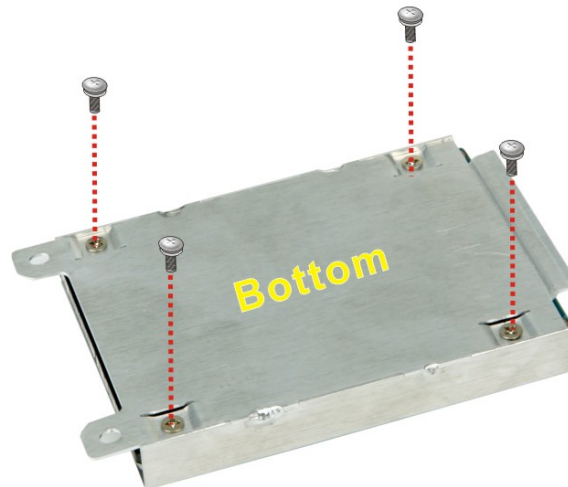

Figure 3-3: Secure HDD
Step 4: Insert an HDD into the HDD bracket, aligning the four retention screw holes on the bottom of the HDD bracket with the retention screw holes on the bottom of the HDD (**Figure 3-3**).
Step 5: Insert four retention screws (M3*3) into the bracket (**Figure 3-3**).